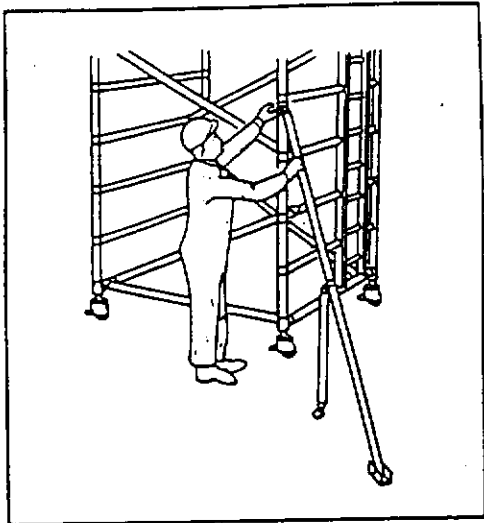

Fig.21
- a. In Fig. 21, an SF type stabiliser is shown being fitted to the Base Section. Four of these will be fitted, one to each corner post.